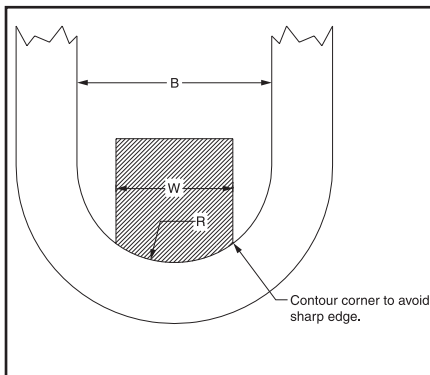

Figure 1
Crosby master links and master link assemblies are proof tested with special fixtures in accordance with ASTM A952 and EN-1677-4. The purpose of the special fixture is to prevent localized point loading during the proof test. Point loading at the proof test load may result in permanent deformation. ASTM A952 allows for a maximum proof test fixture width (W) of 60% of the inside width (B) of the master link. EN 1677-4 allows for a maximum proof test fixture width (W) of 70% of the inside width (B) of the master link. The radius of the fixture (R) is one-half of inside width of the master link. A sketch showing an example of the special fixture is shown in Figure 1. Note that the corner of the fixture should be contoured so that a sharp edge does not make contact with the master link during the loaded condition.